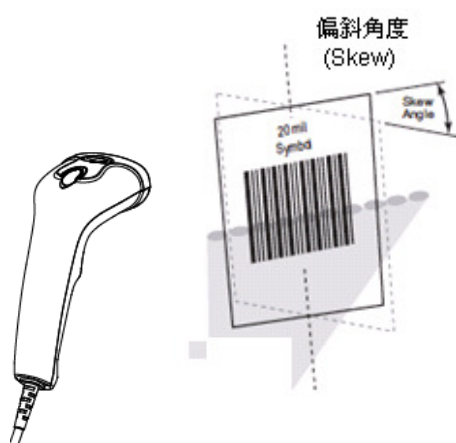

Fig. 1-9
- ◇ Skew: $\pm 60^\circ$, 0° Roll and 0° Pitch (Fig. 1-9)